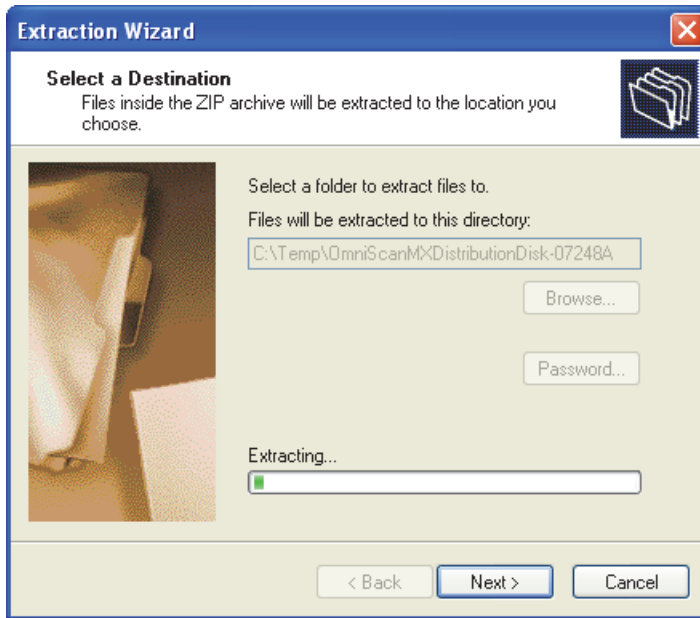

Figure 4-9 Extracting files
- Back in the **Select a destination** screen of the **Extraction Wizard**, click **Next** to start unzipping the files (see Figure 4-9 on page 83).